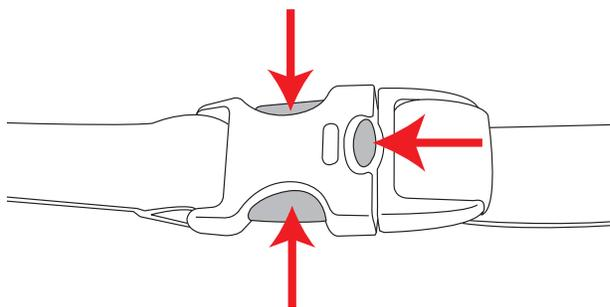

Figure 26
- When you remove the infant carrier from the stroller, unlocked the restraining strap by pressing the button and both side releases. See Figure 26.